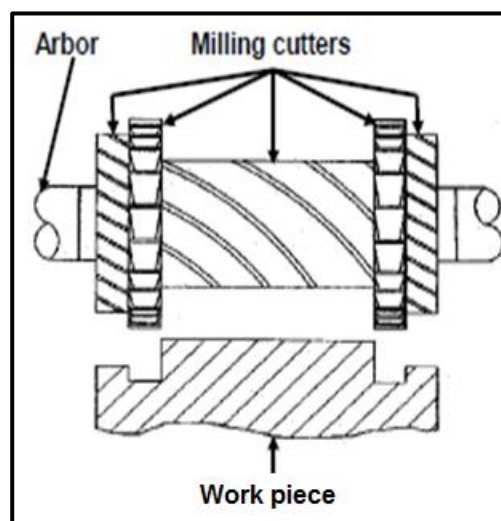

FIGURE 4.2
4.2 Identify the milling process in FIGURE 4.2 below.